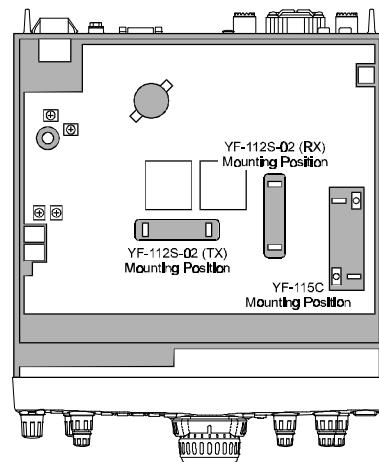

Figure 2
- ② Refer to Figure 2, and locate the mounting positions for the CW (**YF-115C**) and/or SSB (**YF-112S-02**) filters on the MAIN Unit.
- ③ Push the optional filter board(s) onto the pins corresponding to the assigned mounting location on the radio. Gently press the board(s) down until the pins are firmly seated in the connectors.
- ④ Replace the bottom case of the transceiver.
- ⑤ Turn the transceiver on, and enter the Menu mode. Per the details on page 88, change the setting of Menu #33 to “ON” if installing the **YF-115C** CW filter.